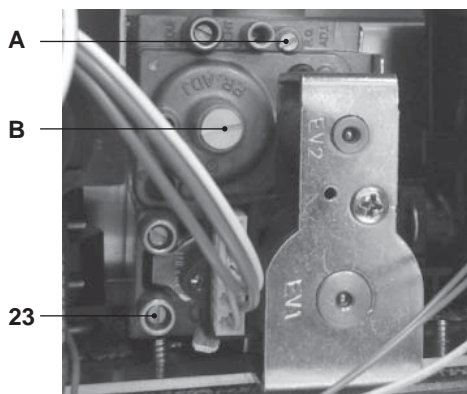

Fig. 7.6
- When the boiler is switched off (out of order), check the supply pressure by using the 23point in Fig. 7.6 and compare the value read with that reported on the Gas supply pressure table in section "Technical data Activ A 120V" to page 24, section "Technical data Activ A 150V" to page 26, section "Technical data Activ A 200V" to page 28 and section "Technical data Activ A 250V" to page 30.
- Close well the pressure point 23in Fig. 7.6.